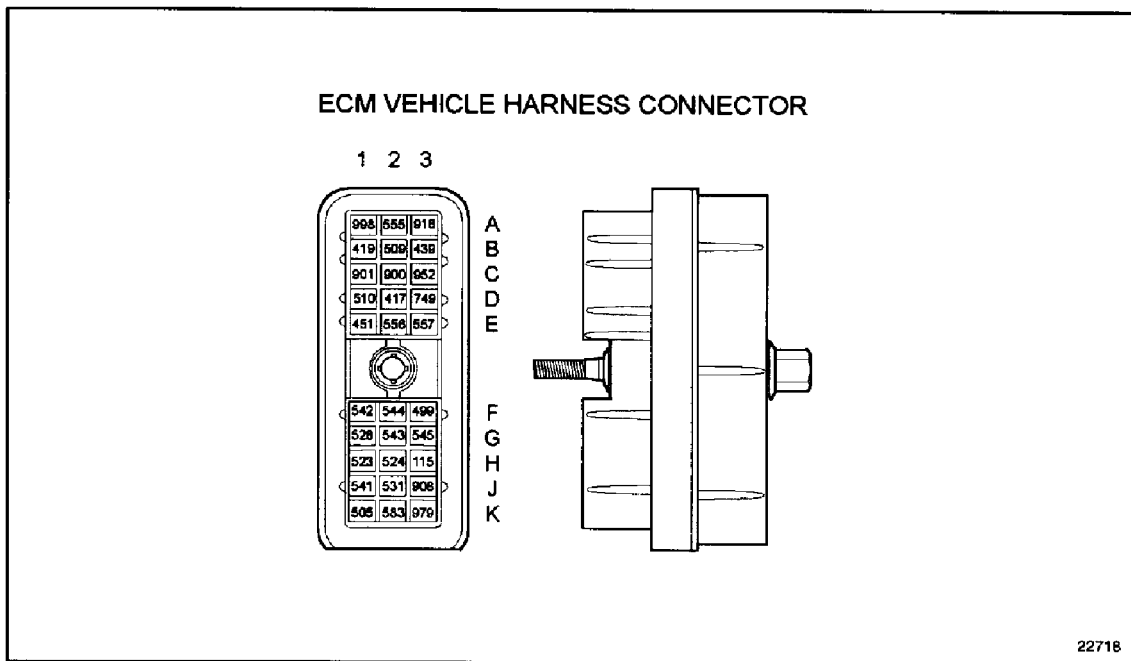

Figure 22-4 ECM Vehicle Harness Connector
1. Check terminals at the ECM harness connector (both ECM and harness side) for bent, corroded, and unseated pins or sockets. See Figure 22-4.